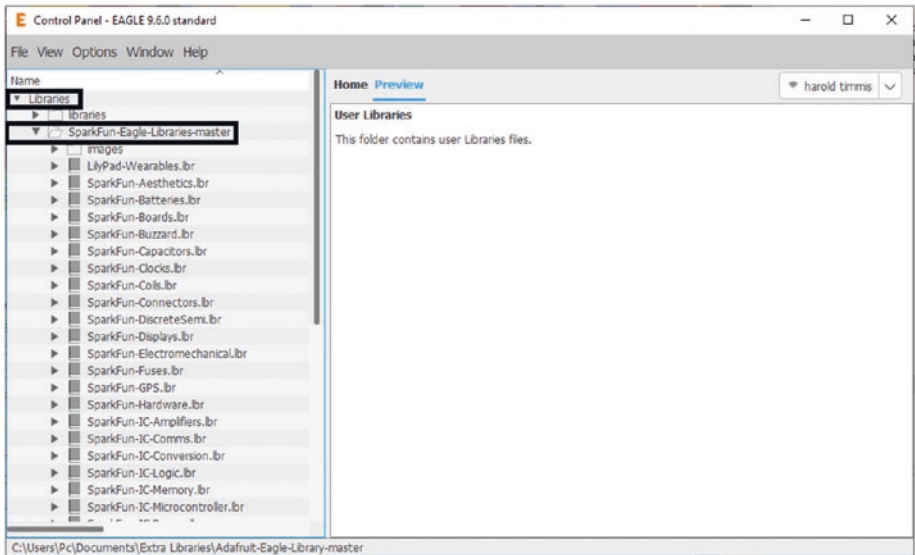

Figure 5-12. Shows the SparkFun Eagle library loaded
- 10. On the front screen of Eagle, go to the Libraries drop-down and click the arrow. See Figure 5-12.